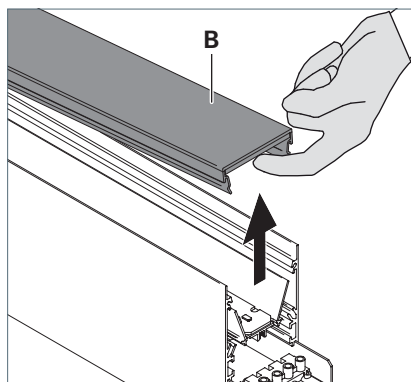

Fig. 12: Removing the cover.
- Remove the cover **B** on the side on which the light is directly emitted, see Fig. 12.